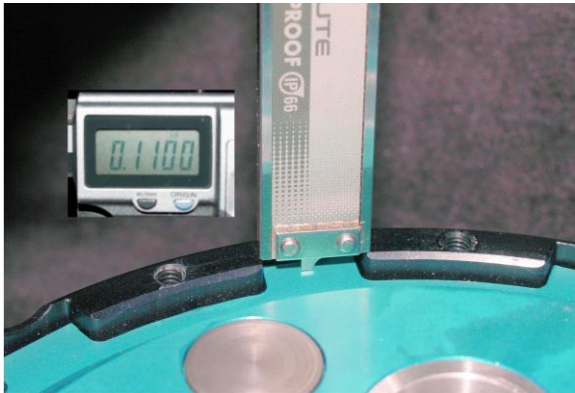
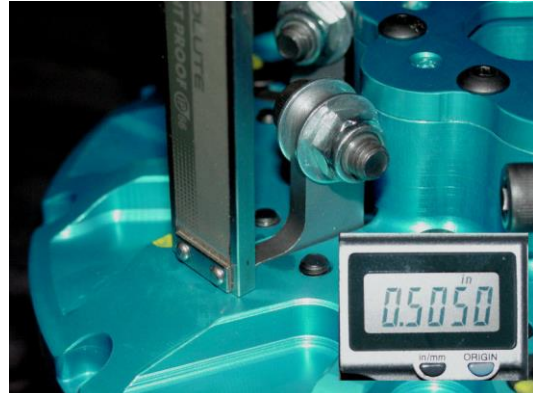

Fig. 1
Fig. 2
- E. Install the friction and metal plates the same way as with the stock procedure, start with a FIBER, then steel, continue until you end with a fiber. The GSXR1000 Gen II clutch has (7) steels (1) at .102''thick, (6) at .090''thick and (8) fibers (0.130'' thick) plates. The total clutch pack should be approximately 1.682''.
- F. Insert the pressure plate on top of the last fiber. The height from the top of the tang, on the pressure plate to the top of the basket should be approximately 0.110'' – 0.115'' (See Fig. 1). This will give you an air gap below your arms to the buttons of 0.110''.
- H. Place the hat assembly on the basket and tighten the twelve (12) allen head cap screws to secure it.
- I. The air gap between the arms and the pressure plate buttons can be measured using the thin bottom section of a caliper. Stick the caliper rod into the slot opening just behind the arm (See Fig. 2) until it hits the top of the button on the pressure plate. Take a height reading to the top of the Gen II hat, this reading should be between 0.490”-0.510”. This gives an air gap of 0.100”-0.120”. It is better to start with an air gap of 0.100” to compensate for clutch wear. This technique can be used to maintain the air gap, after repeated runs, without removing any part of the clutch.